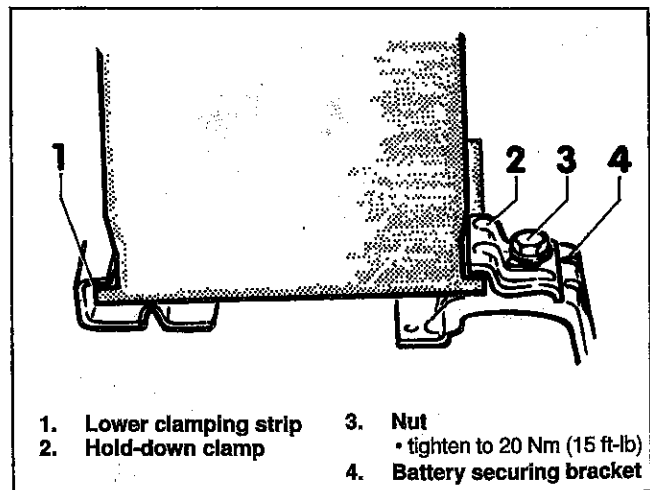

Fig. 3. Battery hold-down assembly.
3. Remove the battery hold down nut and clamp. See Fig. 3.